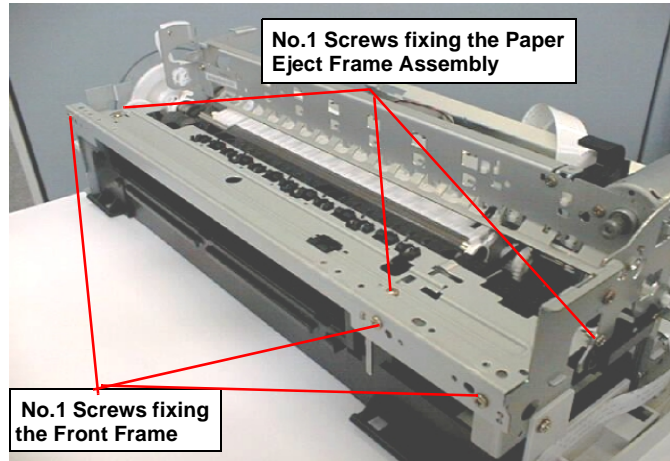

Figure 4-51. Removing the Font Frame & Paper Eject Frame
- 9) Remove three screws (No.1) securing the Front Frame to the Printer mechanism and remove it. Refer to Figure 4-51.
- 10) Remove three screws (No.1) securing the Paper Eject Frame Assembly and remove it. Refer to Figure 4-51.